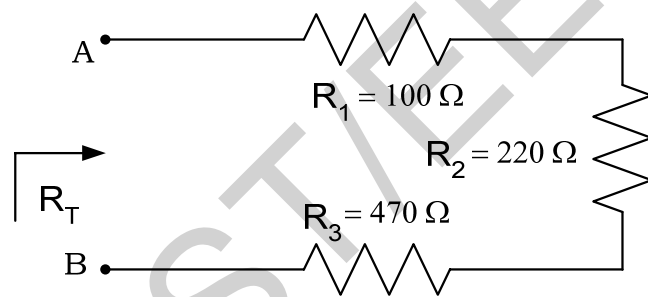

Figure 3.2
2. Construct the circuit as shown in Fig 3.2.